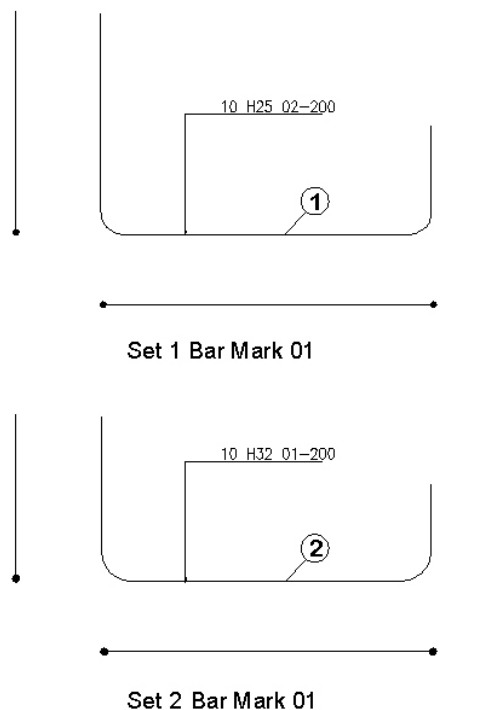

Figure 8.3.6:4 Editing the properties of Shape Code 21
- ▶ Select CADS RC → Editing → Edit Bars or  or double click the bar as marked by point 2 in figure 8.3.6:4 above;